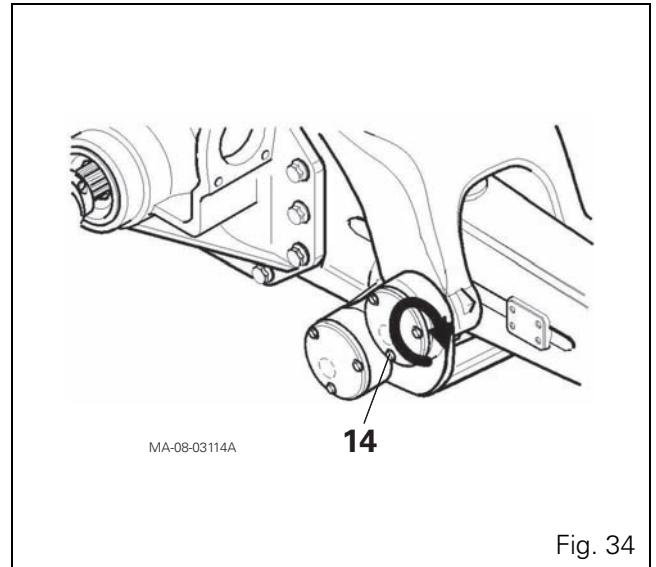

Fig. 34
38. Re-tighten the pin covers (14) on the upper arms to 13 Nm (Fig. 34).